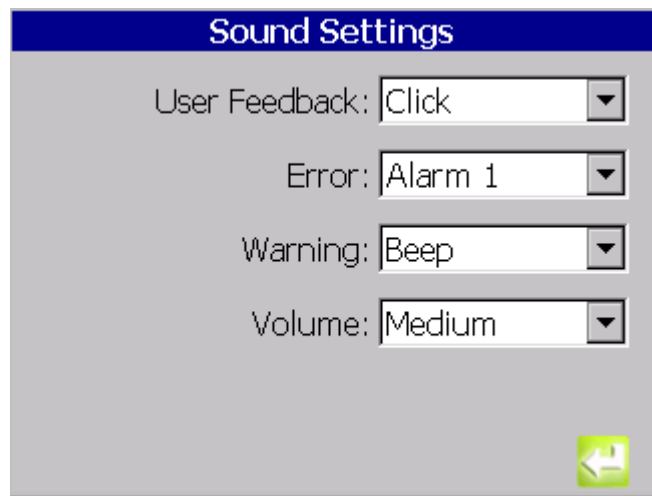

Fig 3-9 : Sound Settings Screen
- 1) From the Main Screen, select the **Setup icon > Sounds** icon to invoke the **Sound Settings** screen, shown in Figure 3-9.